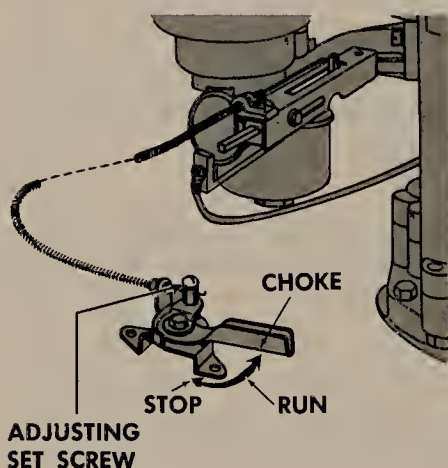

FIGURE 15.8 Adjustable, manually operated choke. (*Briggs and Stratton Corporation.*)
15.8 Choke Adjustment. Most chokes in carburetors for small engines are of the manual type, controlled by linkage to a choke lever. One typical example is shown in Fig. 15.8. To adjust this choke, remove the air cleaner so you can see the choke action. Move the control to the fully closed position. The choke should be closed. If it is not, adjust the control linkage. Then move the control to the fully open position to make sure the choke also moves to the fully open position.